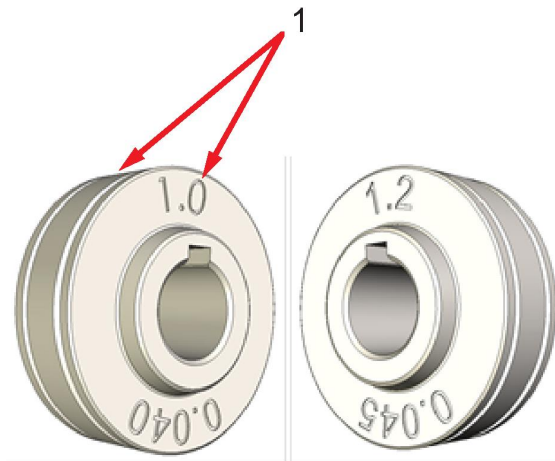

Figure 15. Wire-feed rollers offered in multiple sizes
1. Install the drive roller (in the correct size and in the correct groove orientation). Verify that the correct size groove is oriented on the **inside** (see Figure 15).